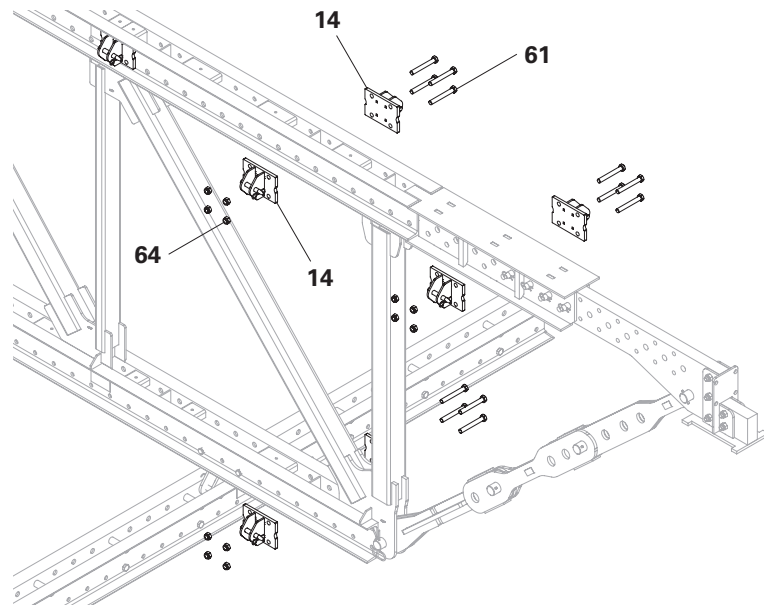

Fig. B3.04
- When connecting a single truss or truss package, a coupling connection (14) must be fitted on the rear side. Fit this together with the coupling connection (14) of the front side. (Fig. B3.04)